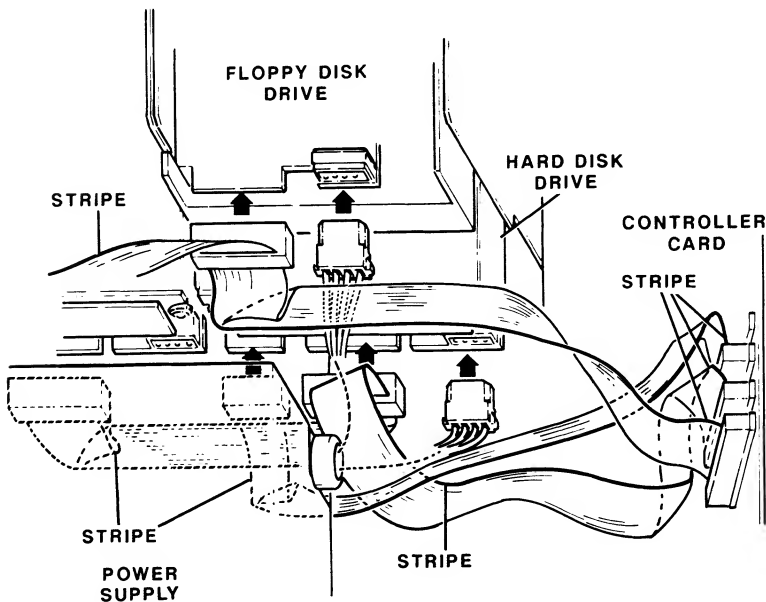

Figure 5-23. Connecting the Drive and Power Supply Cables
11. Connect the cables from the hard disk drive to the disk controller card exactly as shown in Figure 5-23. Note the position of the stripe on the cables.
12. Connect the cable from the floppy disk to the disk controller card exactly as shown in Figure 5-23. Note the position of the stripe on the cable.
13. Refer again to Figure 5-23. Connect the cables from the power supply to the hard disk drive and the floppy disk drive.